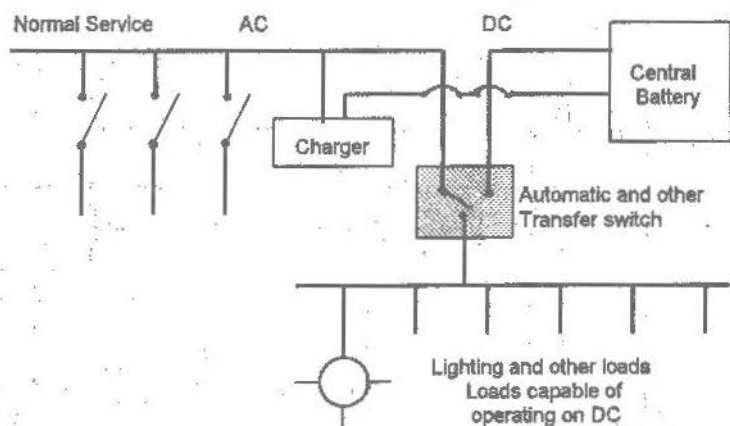

FIGURE 3-23 CENTRAL BATTERY BANK TO AC and DC LOAD.
2. Where all emergency loads could be supplied with direct current DC as in the following diagram, the same arrangement in Figure 3-23 could be adopted if alternating current AC is required.